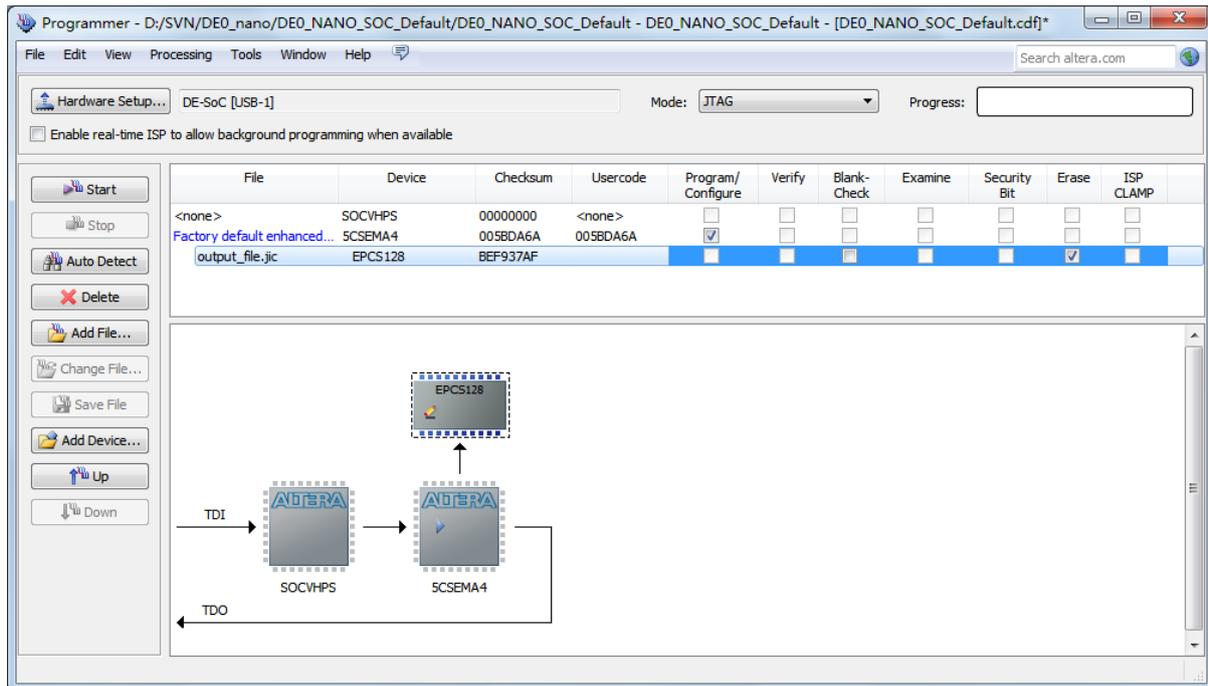

Figure 7-9 Erase the EPCS device in Quartus II Programmer
5. Erase the EPCS device by clicking the corresponding **Erase** box. A factory default SFL image will be loaded, as shown in Figure 7-9.